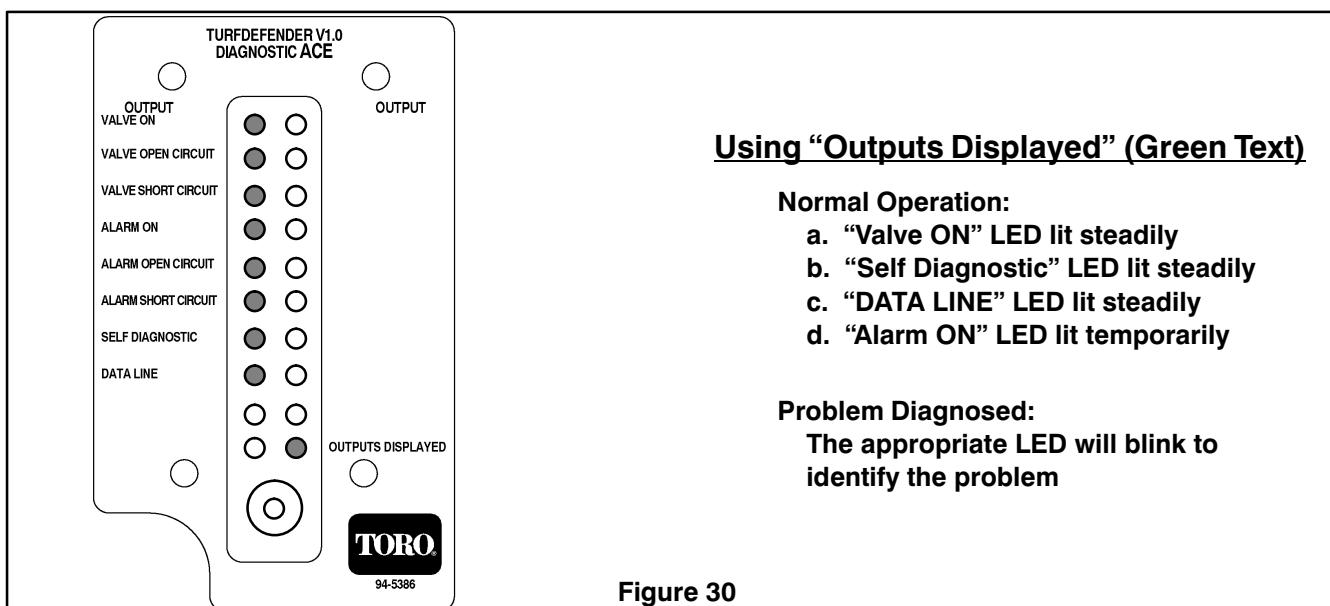

Figure 30
2. Press toggle button until green "Outputs displayed" LED is lit. "Valve ON", "data line" and "self diagnostic" LED's should be lit steadily. "Alarm ON" LED may be displayed temporarily (about 5 seconds) (Fig. 30).